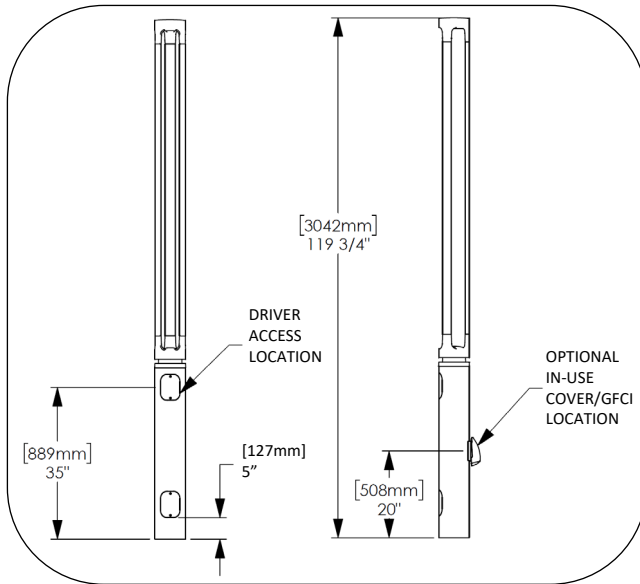
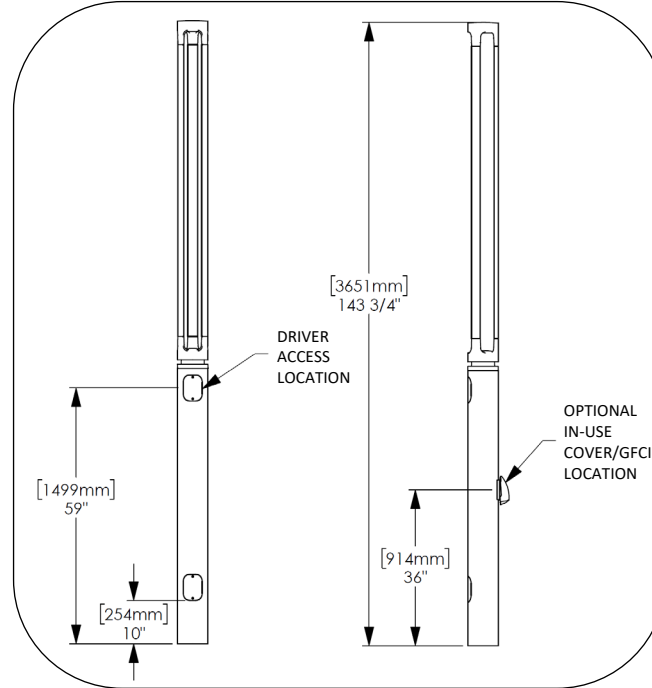

FIG. 1 – COLUMN LIGHT 10FT HANDHOLES
FIG. 2 – COLUMN LIGHT 12FT HANDHOLES
1. Run line-in voltage wiring through conduit opening in base plate, up to driver plate installed inside the top handhole location, see Fig. 1 and Fig. 2.